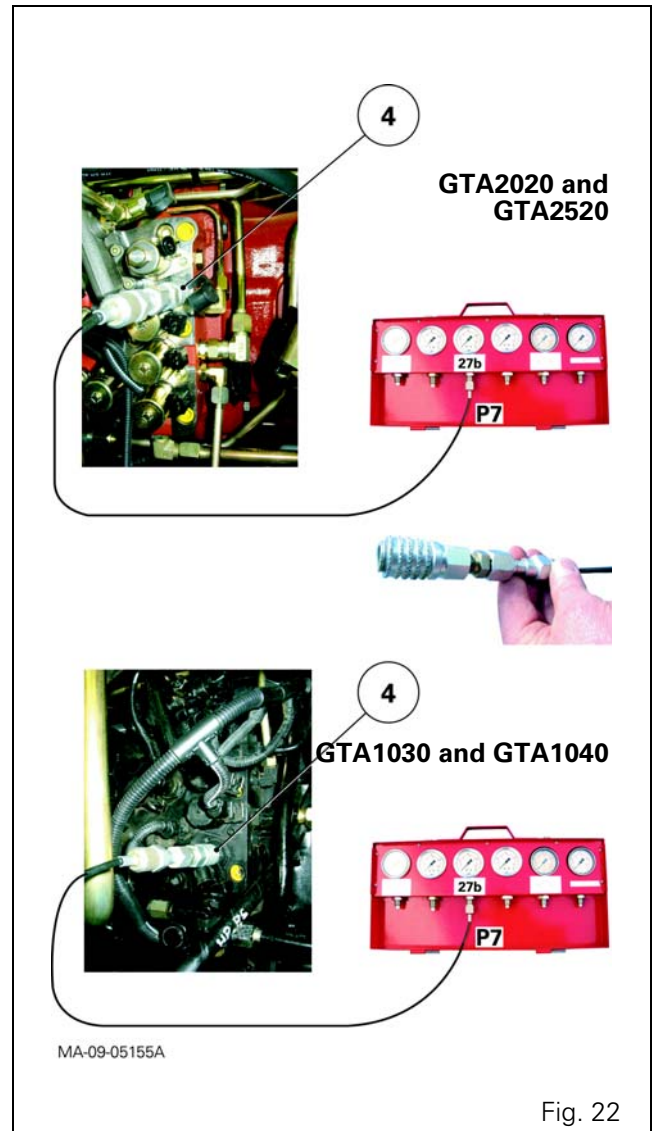

Fig. 22
- Connect a pressure gauge with a capacity of approximately 30 bar to the 17 bar or 20 bar diagnostics connector (4) (Fig. 22) to check **P7**.